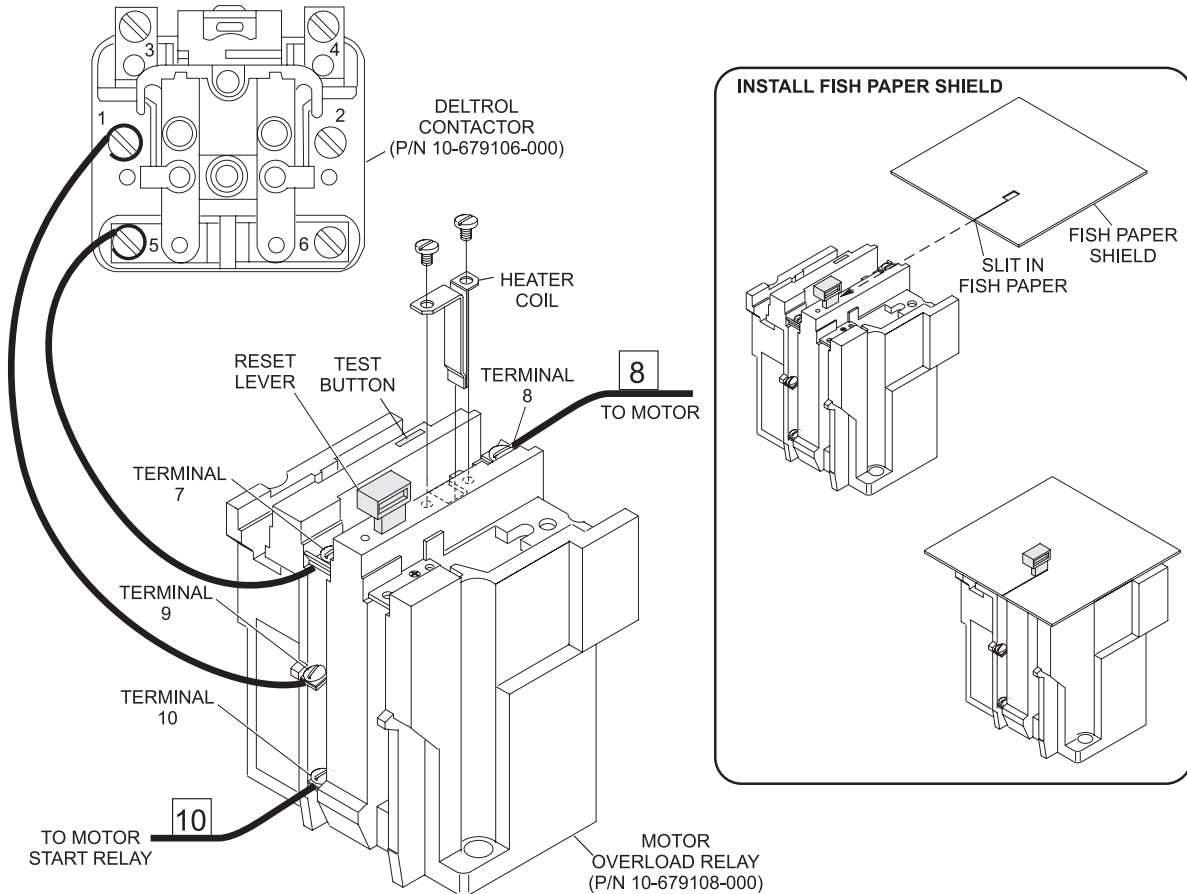

Figure 4
- Connect the wires to the overload relay. Refer to *Figure 4*.
- Mount the heater coil. Refer to *Figure 4*.
i **NOTE:** It may be necessary to push reset lever on overload relay. Refer to *Figure 4*.
- Install fish paper shield on reset lever shaft so that the entire top of the relay is covered. Trim if needed. Refer to *Figure 4*.